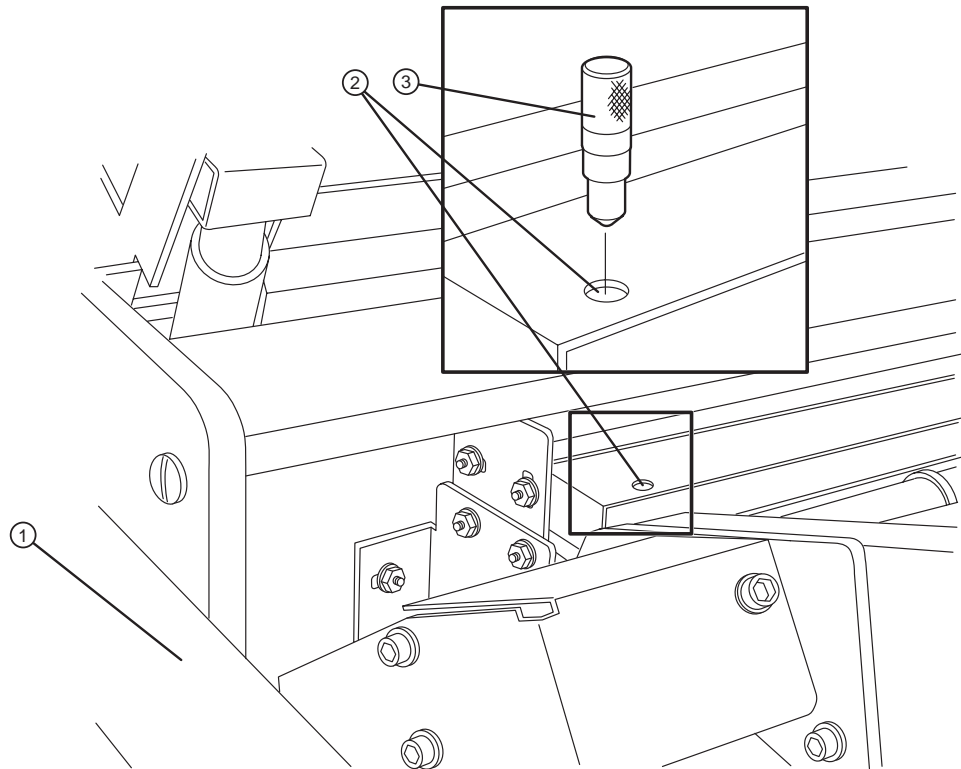

Figure 1-12 Aligning the bridge platen and extension platen.
- Slide the extension platen toward the bridge. Using the two (2) platen alignment pins provided, align the holes on the bottom of the bridge platen (left and right) with the holes in the extension platen. Refer to Figure 1-12.